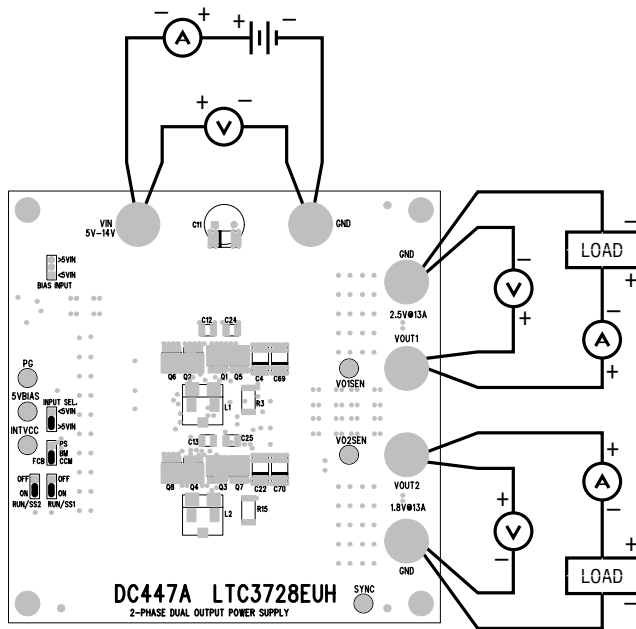

Figure 1. Proper Measurement Equipment Setup
Demonstration circuit 447 is easy to set up to evaluate the performance of the LTC3728EUH. Refer to Figure 1 for proper measurement equipment setup and follow the procedure below:
1. Before powering up, place the jumpers as shown in Figure 1.